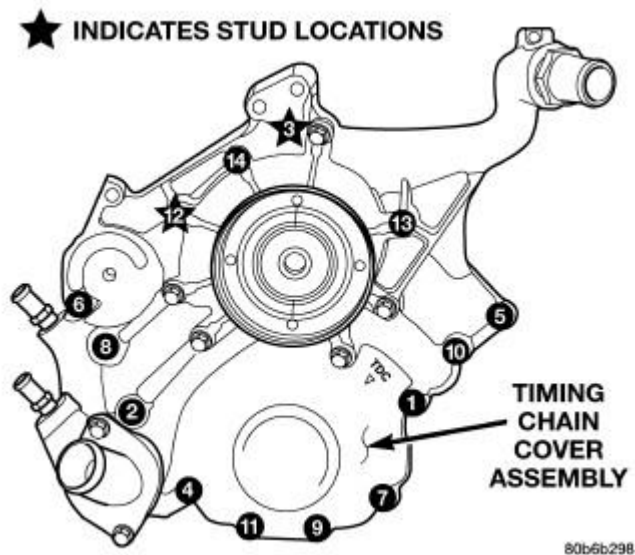

Fig. 179: Timing Chain Cover Assembly Removal/Tightening Sequence
11. Remove the bolts holding the timing cover to engine block. Refer to **Fig. 179**.